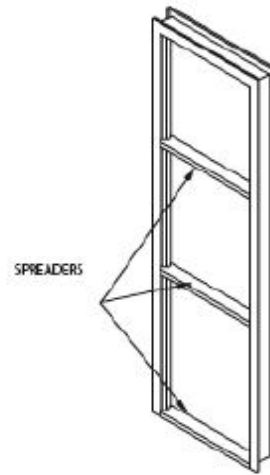

FIGURE 7
4. With jamb opening heights greater than 6' or face dimensions less than 1-1/2", install additional wood spreader (fig. 7).